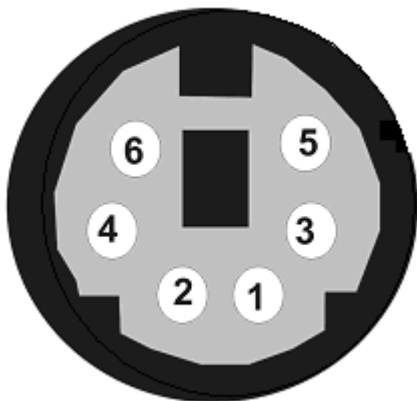

**Figure 3-19: 3307870 Rear Panel**
**Figure 3-19** shows the 3307870 rear panel. The 3307870 rear panel consists of two RJ-45 Ethernet connectors, a PS/2 keyboard connector a USB port and a VGA connector. These connectors are accessible when the 3307870 is installed in a chassis.
CN Location:	See Figure 3-19
**CN Location:** See Figure 3-19